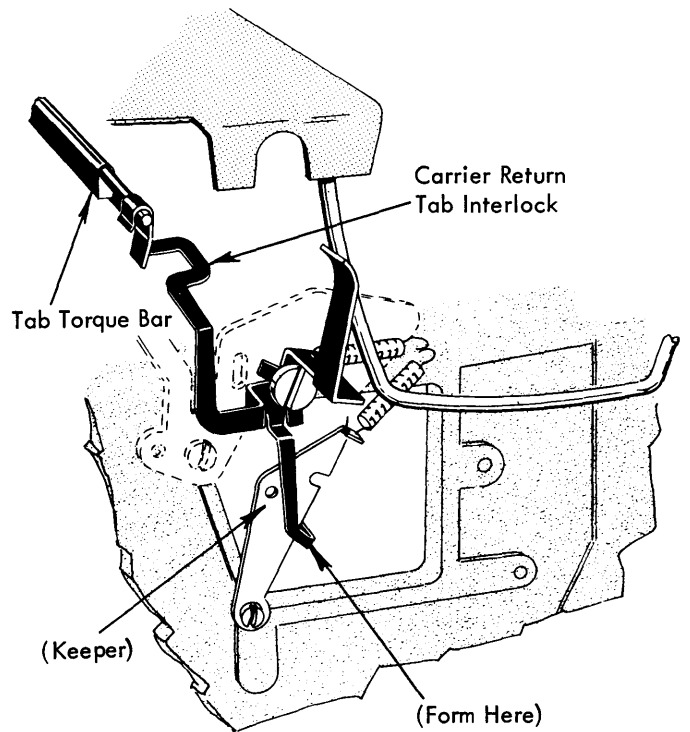

FIGURE 169. Carriage Return/Tab Interlock
8. Carrier Return/Tab Interlock - Form the bottom lug of the interlock (Fig. 169) to obtain the following conditions: